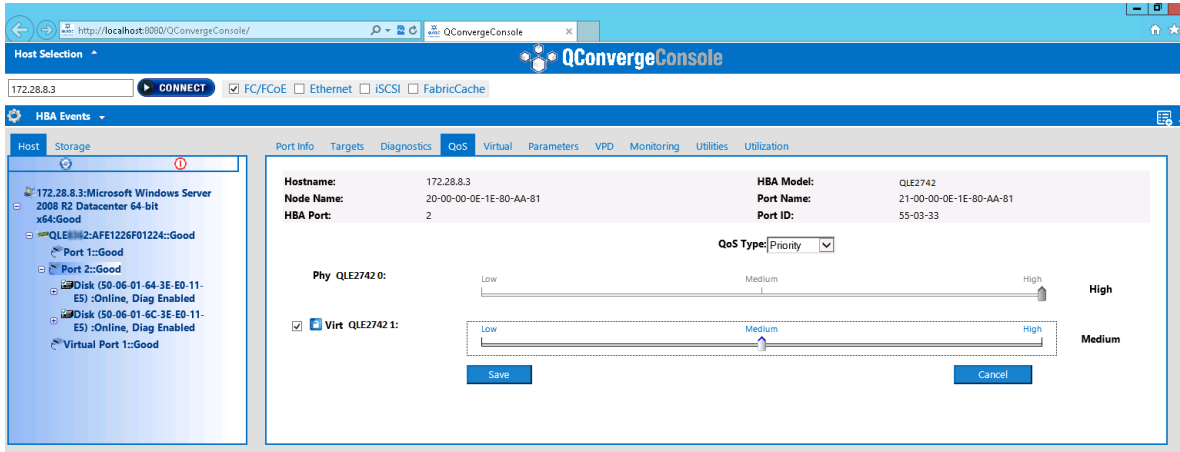

Figure 3-38. Changing vPort Priority using QConvergeConsole GUI
- Click **Save**. Figure 3-38 shows an example.